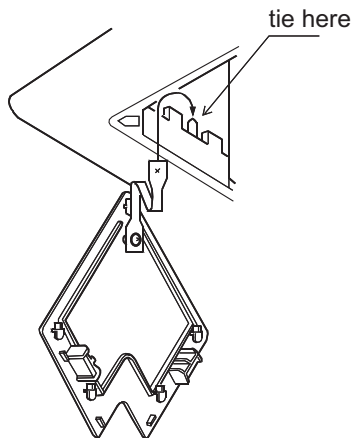

figure 6
3. Remove the air filter, see figure 6.
- a. As shown in figure 6, tie the corner cover thread onto the bolt of ornament panel.